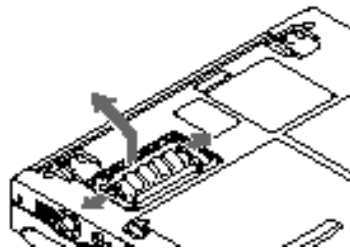

Figure 4-12 Removing a Memory Upgrade Module
7. **Align the connector edge of the memory upgrade module with the connector slot in the compartment. The notch on the module should be on the right with the part side up and the connector pointing toward the front of the notebook and aligned with the notch in the connector inside the compartment. (Figure 4-12.)**
8. **Insert the memory upgrade module at a 45° angle. (Figure 4-12.) Press the connector edge of the module firmly down and into the connector.**
2. **Pull the clips sideways away from each side of the memory upgrade module at the same time. (Figure 4-12).**
3. **While holding the clips out, remove the module from the slot by lifting it up and pulling towards the rear edge of your notebook. (Figure 4-12).**